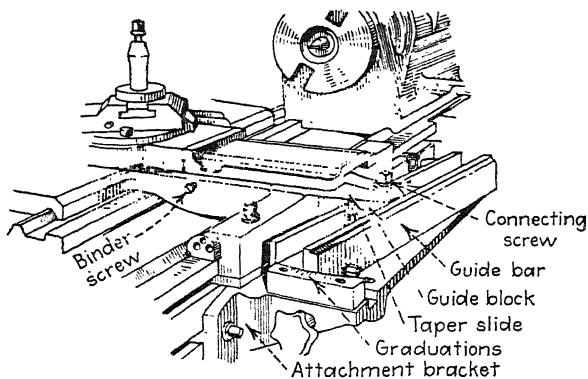

FIG. 157.—Taper attachment. The taper slide acts also as the connection, see Fig. 160.
**172. Introduction.**—The taper attachment (Fig. 157) has many features of especial value among which are the following: (1) The lathe centers are in line and the center holes in the work are not distorted. (2) The length of the work need not be considered, for once the taper is set, that particular taper
FIG. 160.—The taper slide *D* is provided between the cross slide *B* and the saddle *F*. When the taper attachment is not being used, *D* is tightened by the binder screw *E*, and the cross slide *B*, when fed either in or out, moves on *D* as a base. When the binder screw is loosened, the unit comprising *A*, *B*, *C*, and *D* is free to slide on the saddle *F* as a base. In this design the taper slide *D* serves also as a *connection* (see Fig. 157), and when fastened to the guide block it is no longer free but is controlled by the movement of the guide. The cross-feed screw *C* serves equally well whether or not the taper attachment is being used.